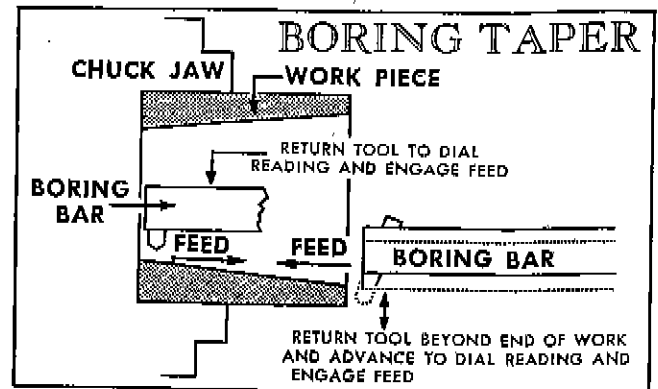
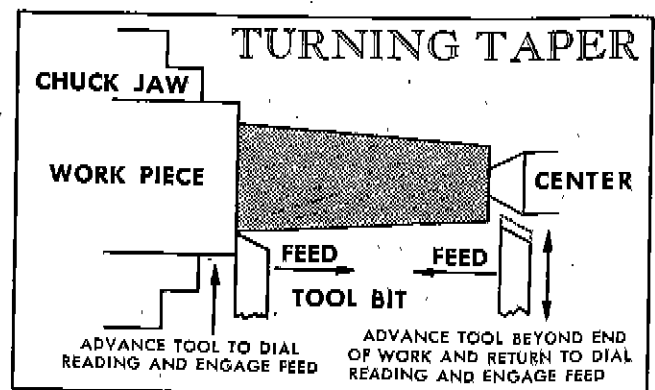

FIGURE 11
FIGURE 12
- Mount work in the lathe—whenever possible the cut should be made as shown in figure 11 for boring taper and figure 12 for turning taper.